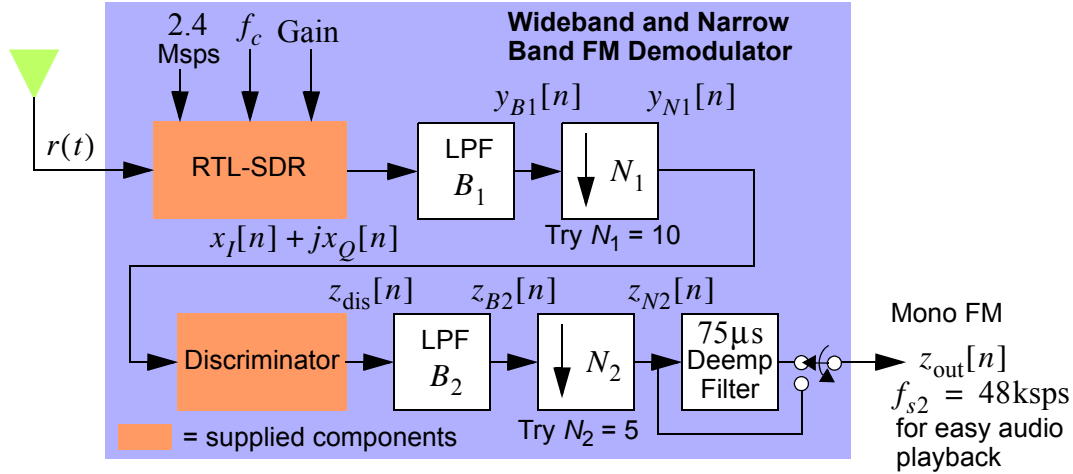

Figure 15: An analog FM receiver for both wideband and narrowband requirements.
Now it is finally time to write some code to demodulate the message contained in a FM carrier signal. With SDR# you just clicked WFM or NFM and the correct demodulation was utilized. Now you have to take full responsibility for making the right things happen. The basic demodulator architecture is shown in Figure 15. The block labeled *discriminator* is key to demodulating FM.
1. In Python or MATLAB, your choice, implement the receiver structure of Figure 15 for broadcast FM. Choose $f_s = 2,400,000$ sps, $N_1 = 10$, and $N_2 = 5$. Note this makes the intermediate sample rate, $f_{s1} = 240$ ksp and the final sampling rate, $f_{s2} = 48$ ksp. When you have completed the steps below you should have a function of the form: